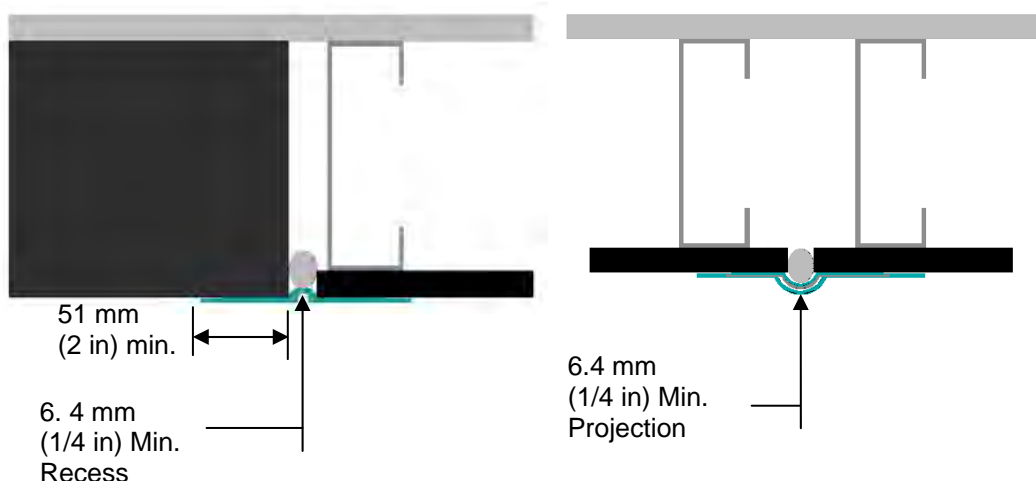

Figure 13
- a. The width of the AquaFlash Mesh must overlap each side of the joint a minimum of 51 mm (2 in) - Figure 13.